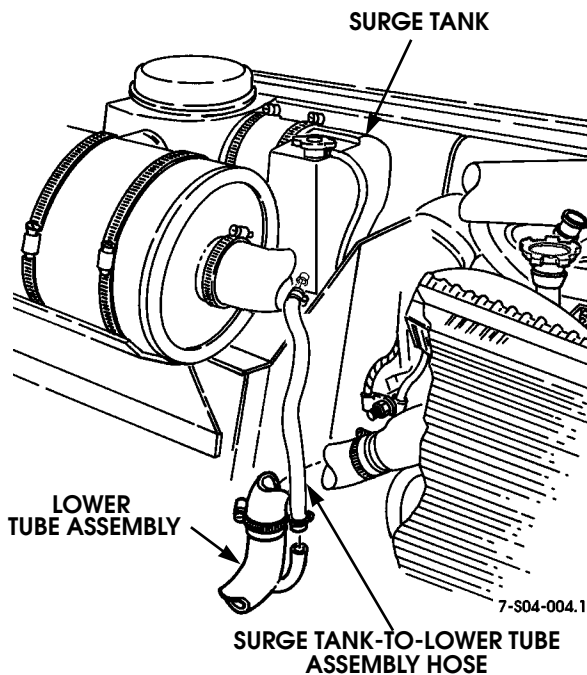

Figure 4-20: Surge Tank-to-Lower Tube Assembly Hose Location
2. Loosen clamps and remove hose from surge tank and lower tube assembly (Figures 4-20 and 4-22).
1. Install hose on lower tube assembly and surge tank and tighten clamps (Figures 4-20 and 4-22).